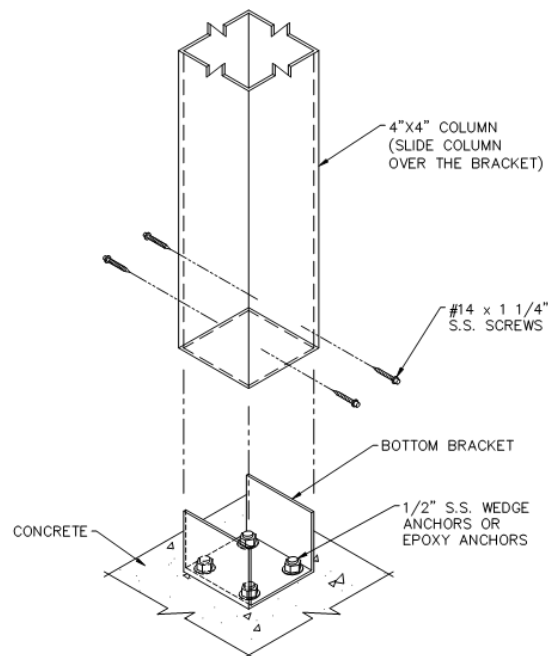

FIGURE 1
- B. For columns in the ground or in block outs, drill a 9/16" hole through the column about 4" up from the bottom of the column. Insert the piece of rebar provided through the holes. Insert the column into the hole in the ground or block out in the sidewalk. Plumb the column and align it with the string. Pour concrete in the hole up to about 2" from the top. For columns with base plates, mark the location of the column fastener holes and drill out the holes to the size and depth indicated on the canopy drawings. Insert the fasteners into the holes. If using epoxy anchors, allow the appropriate time for the epoxy to harden before proceeding. Set the column over the anchors and install the nut and washer. Shim the column, if necessary, to make it plumb and then tighten the nuts. For columns with hidden bottom brackets, follow the same procedure as base plated columns except the bracket will be set over the anchors and shimmed if necessary. Install the nuts and washers on the anchors and tighten the nuts. Slide the column over the bottom bracket and fasten to the bracket with #14 x 1 1/4" SS screws (Figure 1). See the canopy drawings for the number of screws required.